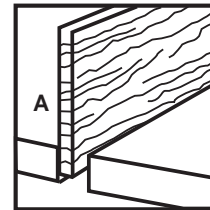

Figure 2
- Clamp board A to a workbench or clamping table. See Figure 2.